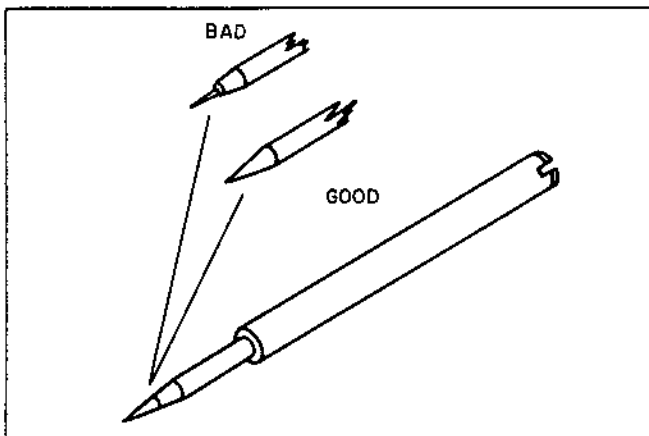

Figure 2-6
- (1) Check all needle valves for wear. Figure 2-6 shows a worn needle valve and a good needle valve. Replace needle valves that are worn.
- (2) Check carburetor inlet needle seat for wear, scoring, or other damage.
- (3) Check carburetor float for dents, leaks, worn float hinge or other damage.
- (4) Check carburetor body for cracks, clogged passages, and worn bushings. Clean clogged air passages with clean, dry, compressed air.
- (5) Check diaphragm of diaphragm carburetors for cracks, punctures, distortion, or deterioration.